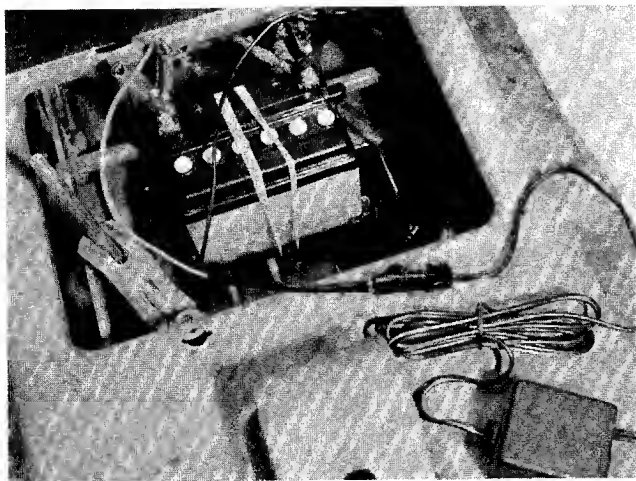

FIGURE 20. Model 525 Only
13. **Model 525 Only**—Slide the rubber boot off the battery and charge the battery as follows. See figure 20. The battery can be slow charged (do not fast charge) at a maximum bench rate of 1.4 amperes until the specific gravity reading is 1.260-1.280. Charge for a minimum of 2 hours and a maximum of 8 hours.